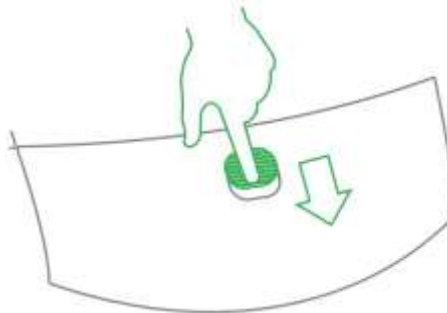

Figure 5-5
- Step 1 Move the buckle on the aircraft cover and open the cover, as shown in Figure 5-5.